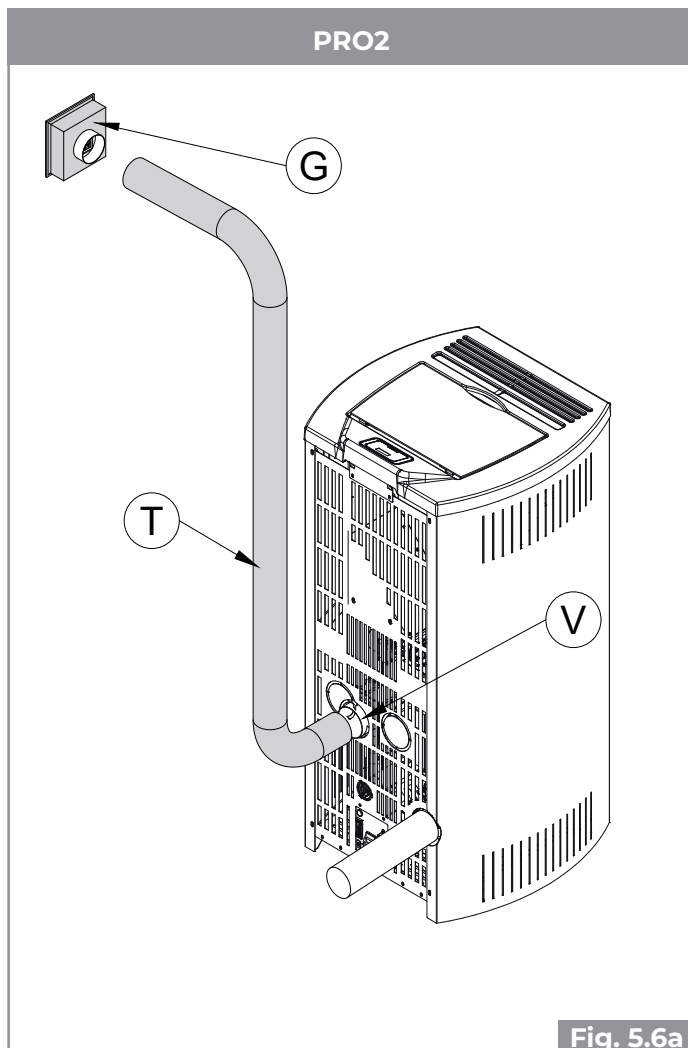

Fig. 5.6a
In order to connect the stove to the ducted heating system, a 80 mm diameter pipe (T) on one side and the air distribution vent (G) on the other must be connected to the rear fan (V). Secure with 80 mm diameter hose clamp (Fig. 5.6a-b).